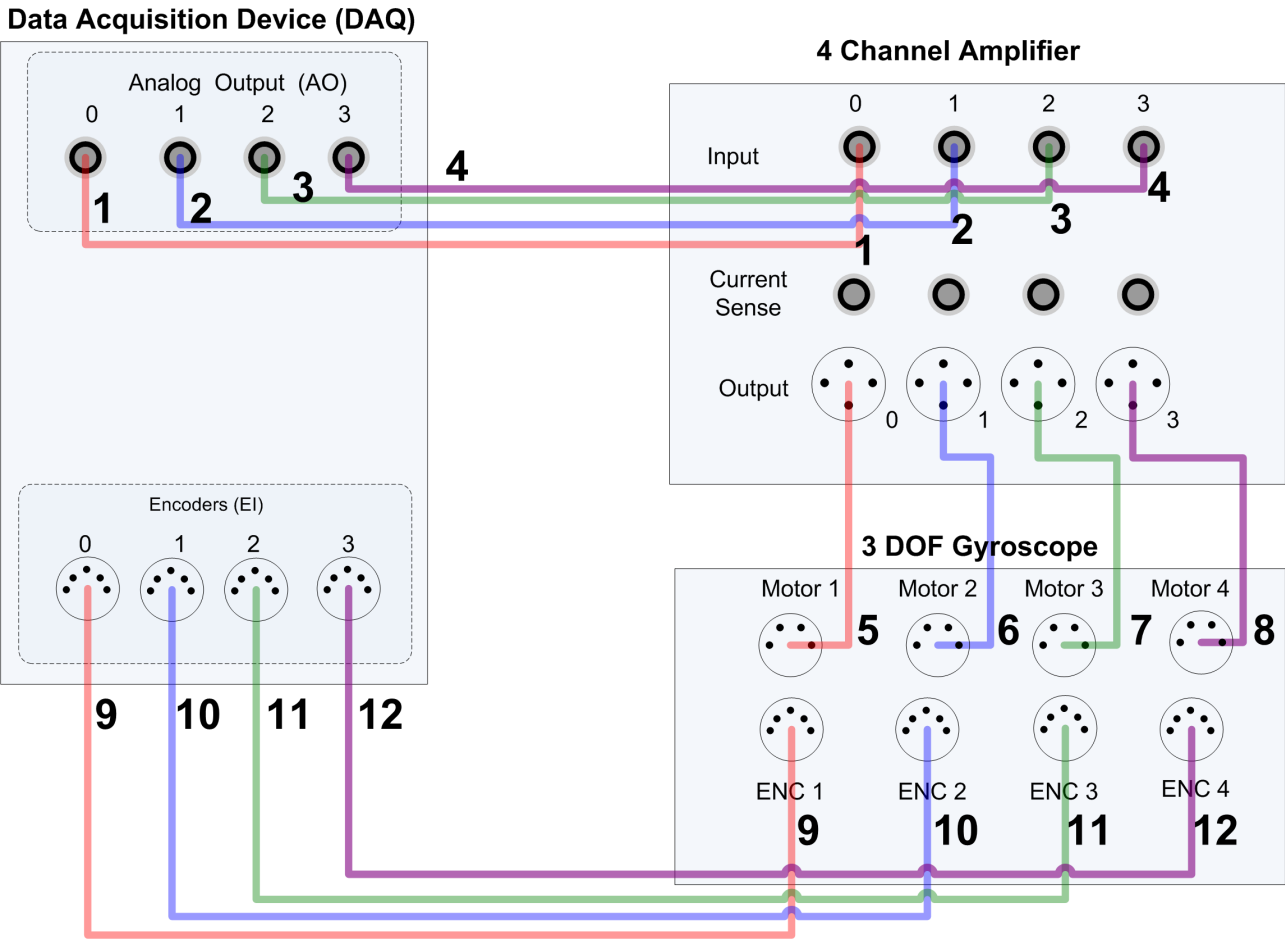

Figure 5.1: 3 DOF Gyroscope Wiring Diagram
Figure 5.1 shows the typical wiring between a generic DAQ device, the 3 DOF Gyroscope experiment, and a four-channel amplifier (e.g. AMPAQ-L4). Table 5.2 describes the connections that are illustrated. The numbering used in the **Cable #** column corresponds to the connection labels in Figure 5.1.
1. Connect one pair of RCA to RCA cables between Data Acquisition Device (DAQ) Analog Outputs 0 and 1 and the Amplifier **Input** ports 0 and 1. This is illustrated by connections 1 and 2 Figure 5.1. Connect another pair between the Data Acquisition Device Analog Outputs 2 and 3 and the Amplifier **Input** ports 2 and 3. This is illustrated by connections 3 and 4 in Figure 5.1.
2. Connect one Amplifier motor cable between the Amplifier **Output** port 0 and the Gyroscope **MOTOR 1** connector. Do the same for the Amplifier **Output** ports 1, 2 and 3 and the Gyroscope **MOTOR 2**, **MOTOR 3** and **MOTOR 4** connectors respectively. This is illustrated by connections 5, 6, 7 and 8 in Figure 5.1.
3. Connect one 5-pin-stereo-din to 5-pin-stereo-din (Encoder) cable between the Data Acquisition Device (DAQ) Encoder Input 0 and the 3 DOF Gyroscope **ENC 1** connector. Do the same for the Data Acquisition Device (DAQ) Encoder Inputs 1, 2 and 3 and the Gyroscope **ENC 2**, **ENC 3** and **ENC 4** connectors respectively. This is illustrated by connections 9, 10, 11 and 12 in Figure 5.1.